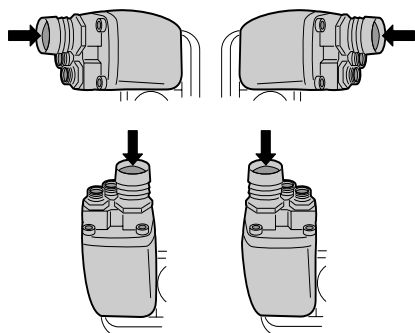

Fig. 1.
- The inlet (suction) port should always be above the pressure port when the pump is installed above the reservoir oil level (fig. 1).